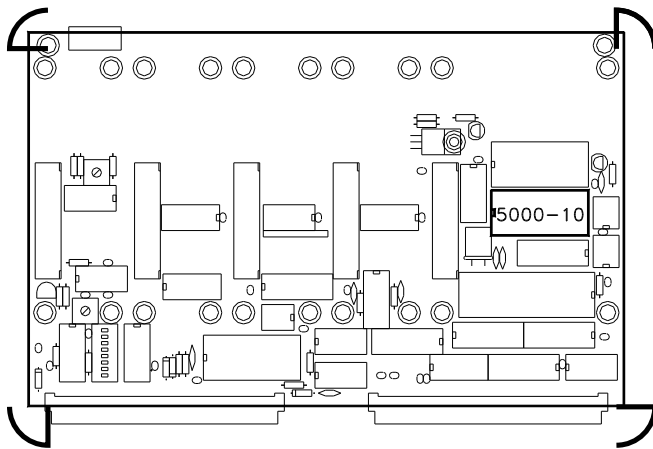

Figure A.11: OmniLink Auto-Setup Module
- ◆ Using Figure A.11, locate and remove the 5000-10 chip.